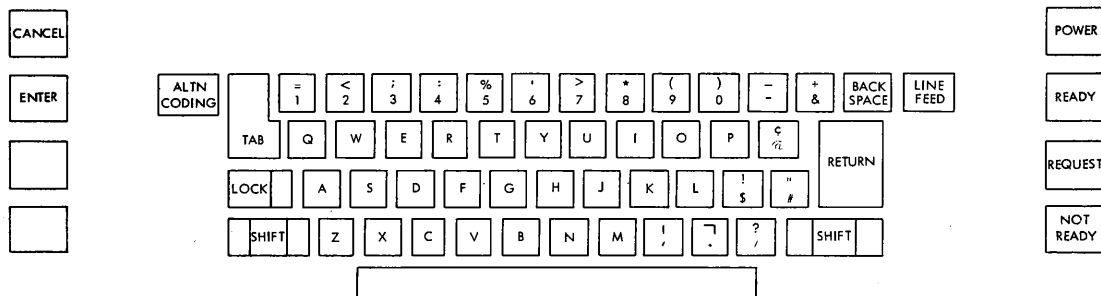

Figure 33. Machine and Keyboard Controls
These controls and indicators (Figure 33) are used for controlling and monitoring 1052 operations.
These controls (Figure 33) permit the operator to manually enter data into the system.
3. Depress the ready key (Figure 33).
6. Make desired keyboard entry by depressing appropriate keys (Figure 33). A printout occurs for each character entry.
7. Depress the cancel key (Figure 33). This cancels all entries made during this request.
10. After the entry is completed, depress the enter key (Fig. 33). This notifies the system that the entry is complete.